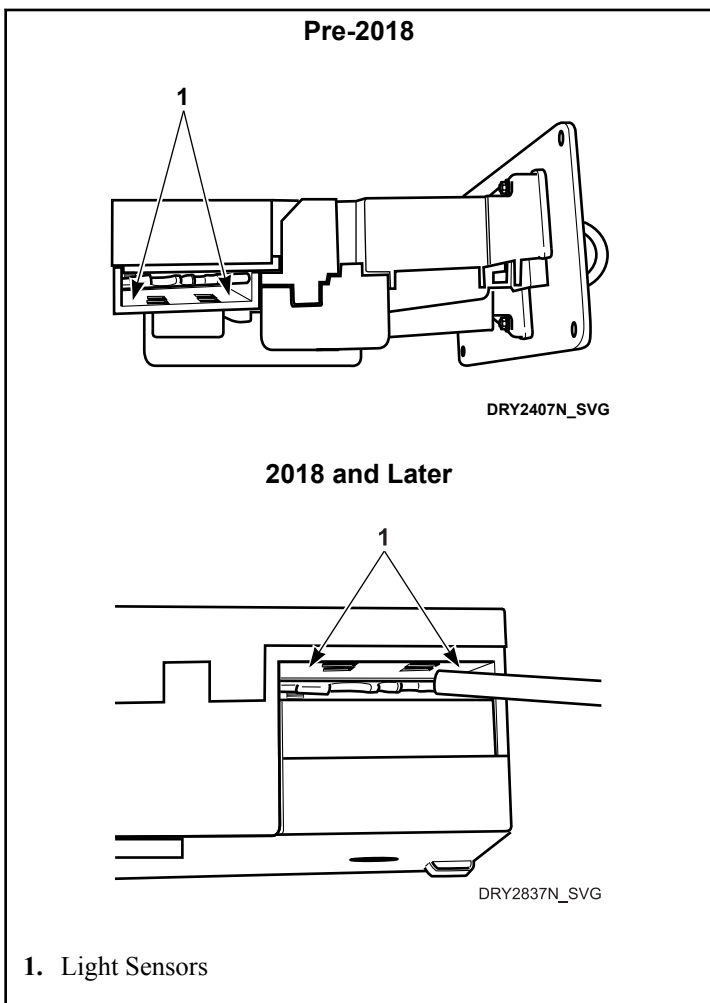

Figure 39
7. Clean light sensors with a soft brush or air spray duster. Refer to Figure 39.